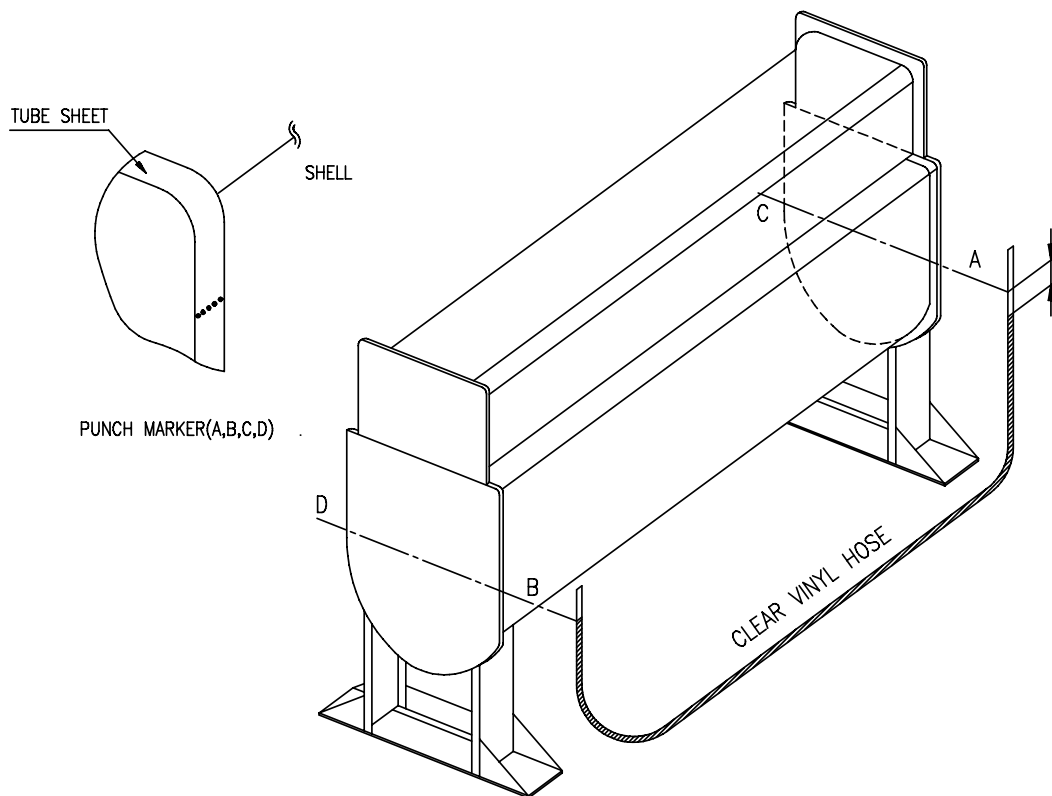

Fig. 3-3. Leveling of the Machine
- 2) The leveling check points are marked on each corner of the tube sheet of lower shell of the Machine. When checks the horizontality of the Machine after positioning, fill a clear vinyl hose with water and measure the water heads difference between 1(one) point and other 3(three) points as illustrated in Fig. 3-3.